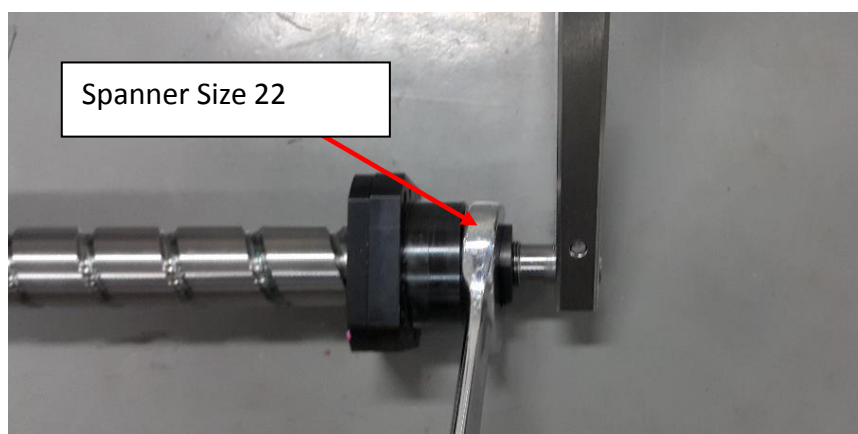

Figure 12 Ball Screw Nut
13. Use Size 22 spanner to hold ball screw nut as shown in Figure 12.